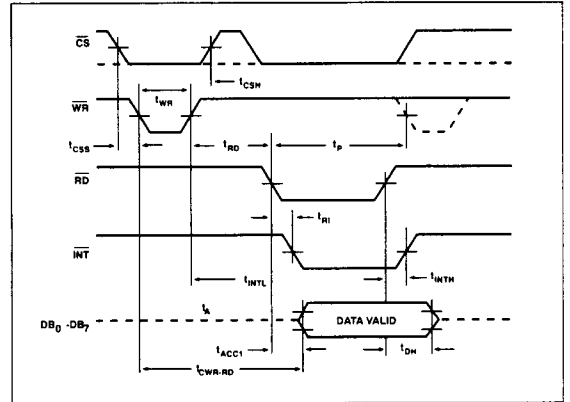

Figure 3: WR-RD Mode (Pin 7 = +5V,  $t_{RD} < t_{INTL}$ )
**WR-RD MODE – Pin 7 = +5V (See Figure 3)** — Pin 6 ( $\overline{WR}/RDY$ ) is configured as the WRITE input when the PM-0820 is used in the WR-RD mode. With the  $\overline{CS}$  line low, conversion starts on the falling edge of the WR signal. The PM-0820 allows several options for reading output data.
**Non-Interrupt Scheme (Faster Conversion Speed) (See Figure 3)** — A faster conversion speed is possible by not waiting for INT to go low. Taking RD low approximately 600ns after WR goes high completes the conversion cycle; this enables the data outputs. INT goes low on the falling edge of RD.